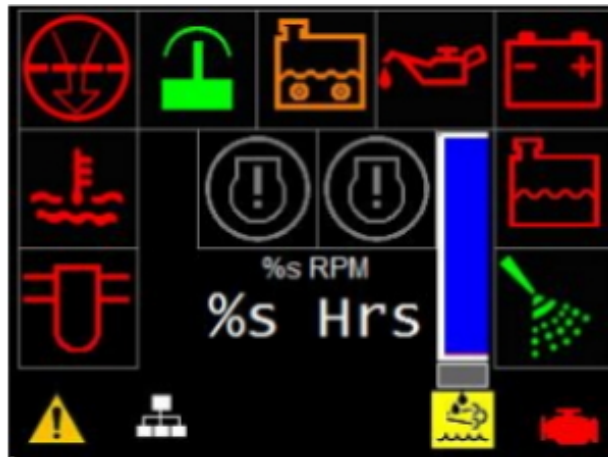

Figure 7.7 - Home Screen (Active Fault)
- » The main menu is displayed on the control panel screen. A fault symbol around the outer edge of the home screen is highlighted red and a yellow safety warning symbol is displayed in the bottom left hand corner of the screen indicating that there is a fault, Ref: Figure 7.7.